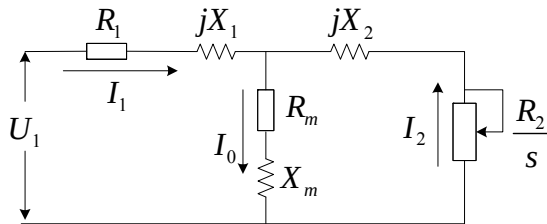

Fig. 5-10-1 Motor equivalent circuit
- ◆ See Fig 5-10-1 for details.
- ◆ In Fig. 5-10-1, R_1 , X_1 , R_2 , X_2 , X_m , and I_0 represent resistance of stator, leakage inductance of stator, resistance of rotor, leakage inductance of rotor, mutual inductance and current without load respectively. The setting of PA.05 is the sum of leakage inductance of stator and leakage inductance of rotor.